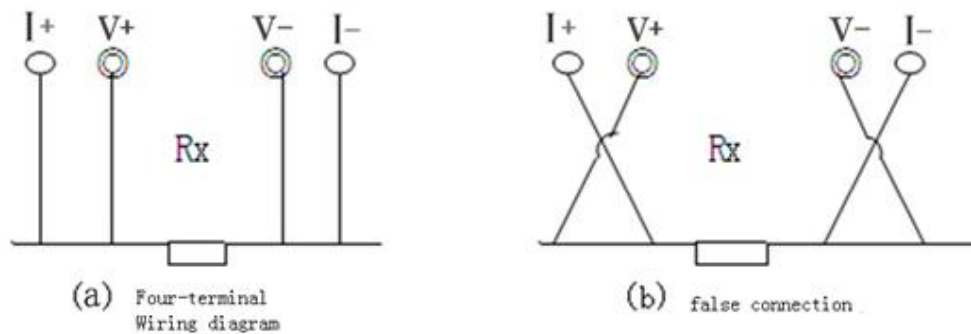

Figure 3 Four-terminal Wiring diagram
1. Wire as shown in the Figure 3.